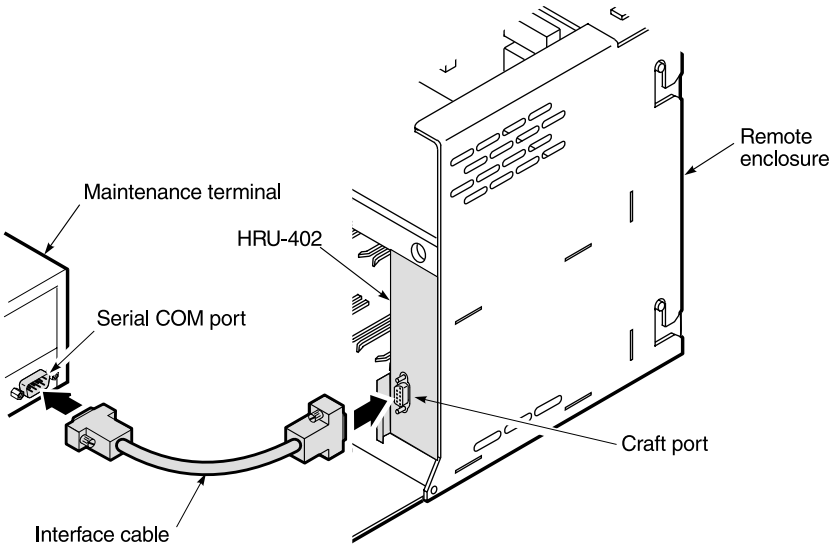

Figure 5. *Connecting to a Maintenance Terminal*
- 1 Connect a standard 9-pin terminal cable to the craft port (Figure 5 on page 12) on the HRU front panel. (For a pinout diagram of the craft port, refer to “Craft Port” on page 35.)